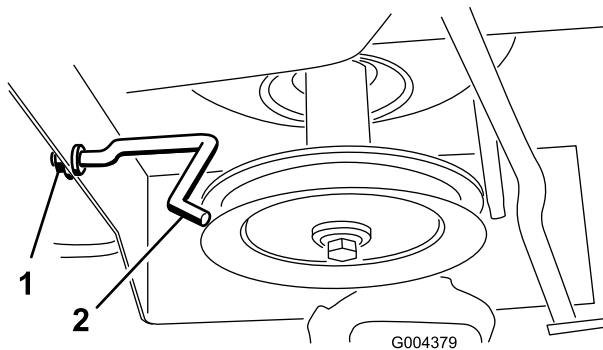

Figure 1
1. Use a 1/2-inch socket and ratchet to loosen the nut that secures the left side of the engine pulley belt guide to allow the belt to clear the guide (Figure 1).